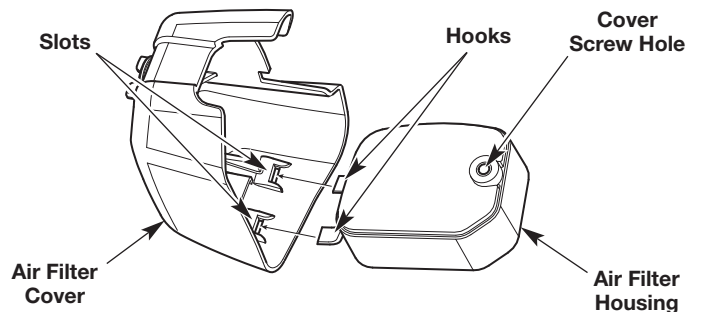

Fig. 22
7. Insert the hooks on the air filter housing into the slots on the air filter cover (Fig. 22).
8. Swing the air filter cover to the right and align the cover screw with the cover screw hole (Fig. 22). Tighten the cover screw to secure the air filter cover.